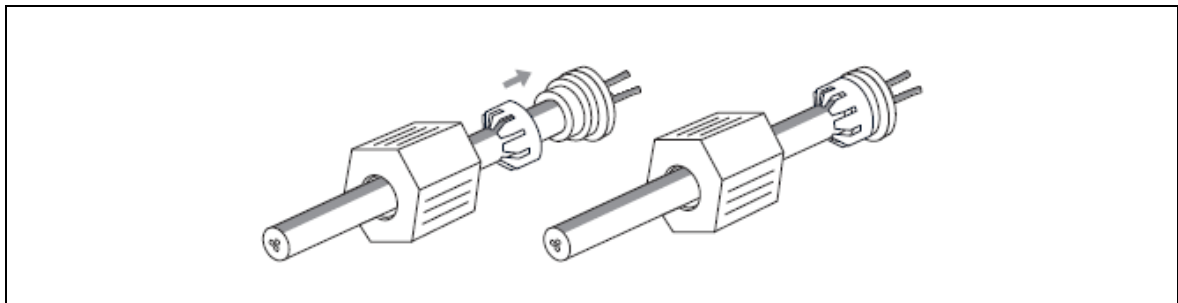

Figure 12 Assembling the QUICKON® fast-connect plug (2)
- 3 Push the seal in until it is positioned at the edge of the insulation. Then put the cap on the seal. This creates a strain relief mechanism for the cable (refer to Figure 12).